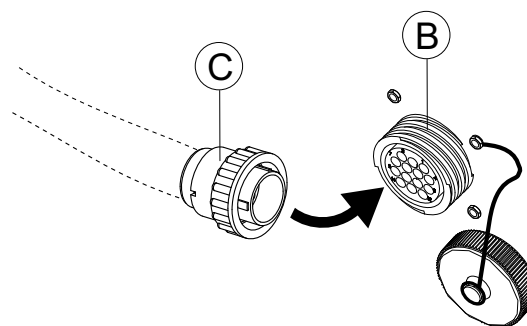

Figure 16 Detail of electrical connection
- connect the rack handling system connector "C" (Figure 16) to connector "B" of the dishwasher, according to electrical wiring diagram.